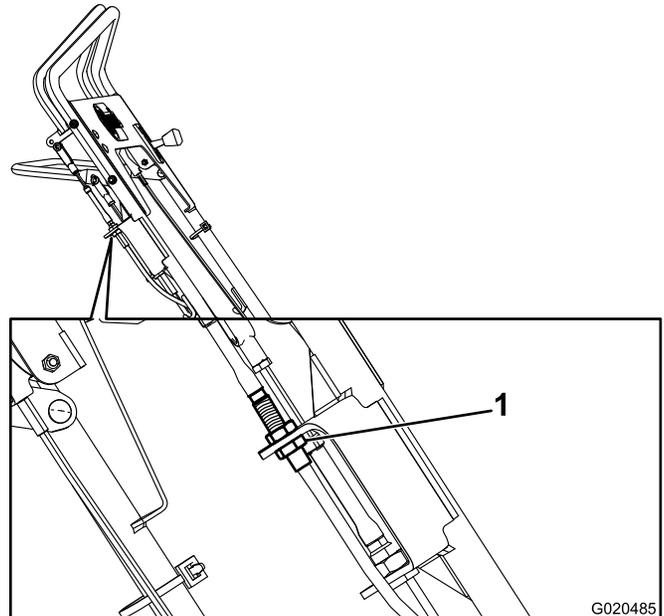

Figure 37
- Loosen and remove the linkage adjustment from the bracket (Figure 37).
- Move the lower nut to the end of the thread (Figure 37).